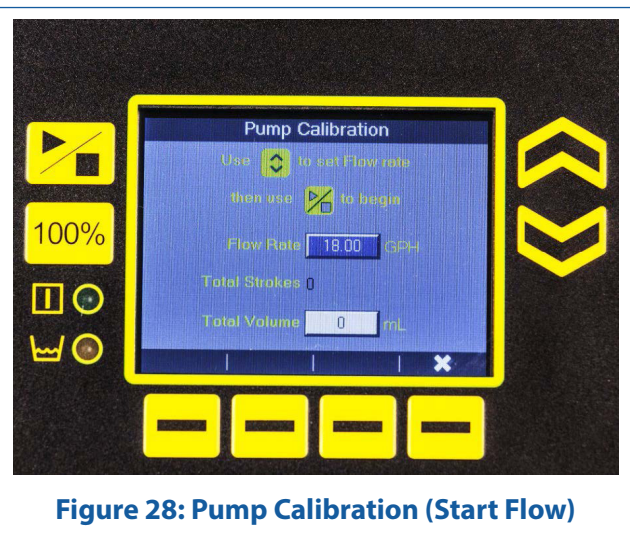

Figure 28: Pump Calibration (Start Flow)
6. Press the **Start / Stop** button and the pump will start and begin counting strokes (Figure 28). Allow the pump to run as long as possible. Calibration accuracy improves with more strokes. (The maximum number of strokes is 9999.) If using a graduated cylinder with a foot valve, keep the fluid level above the valve and weight.